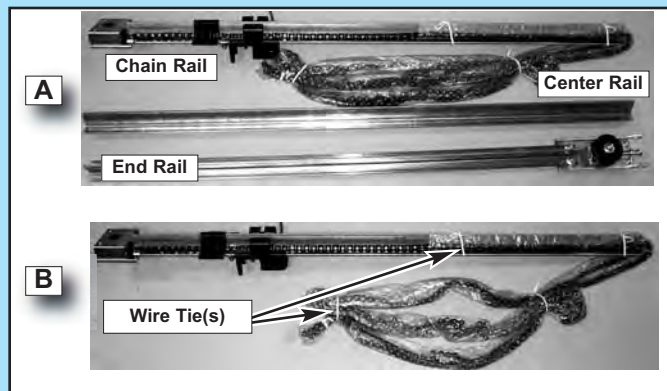

FIG. 1-2 Split Rail sections.
3. Remove the two rail sections that are not connected to the chain and place them on floor (Fig. 1-2, A).
4. Carefully remove the third rail section with chain and plastic sleeve. Place rail section on floor and extend chain straight out. (Fig. 1-2, B). Chain and rail should extend approximately 7 feet.